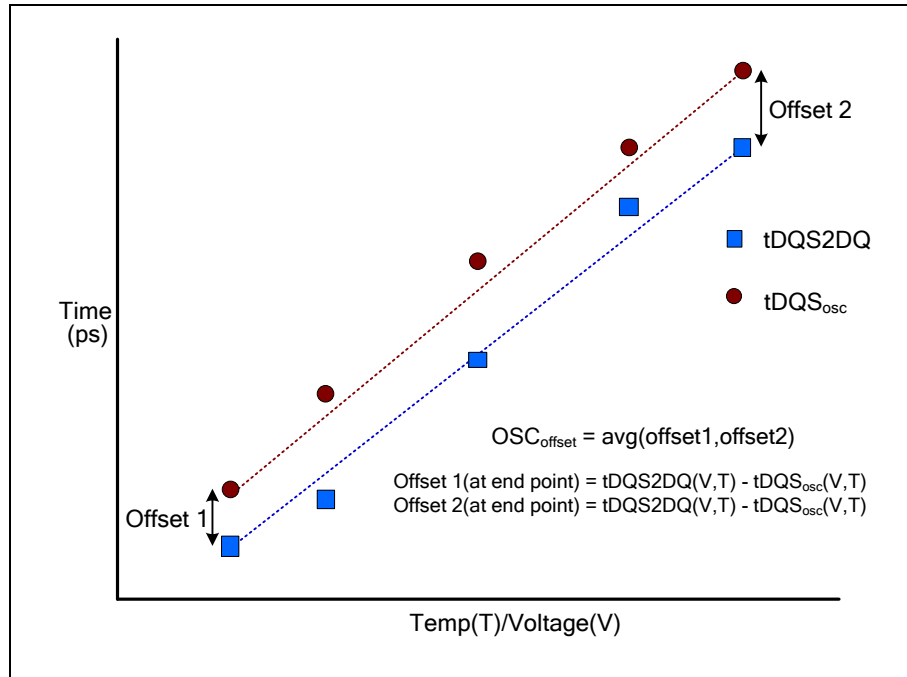

Figure 118 - Interval oscillator offset OSC_{offset}
- OSC_{Offset} : Average delay difference over voltage and temp (shown in Figure118)